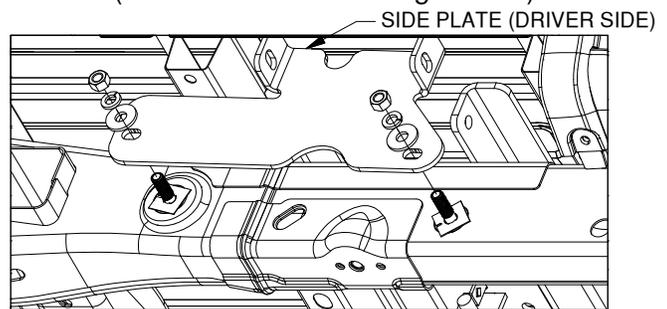

Figure C4: View of driver side wheel well.
3. **Install side plates.** Each side plate (driver and passenger side) will install over the carriage bolts previously placed into the frame. Slowly guide the side plate over the carriage bolts and between the cross members. Attach each plate (driver side shown below) with two 1/2" washers, 1/2" lock washers and 1/2" finish nuts, see Figure C4. Do not fully tighten at this time. (Bolts should be hand tightened.)